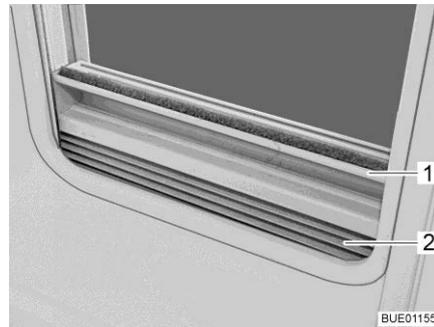

Fig. 35 Roman shade
- Grip the Roman shade (Fig. 35,2) in the middle of the holding bar (Fig. 35,1), pull it upwards and then release it at the desired height. The Roman shade will stay at this height.